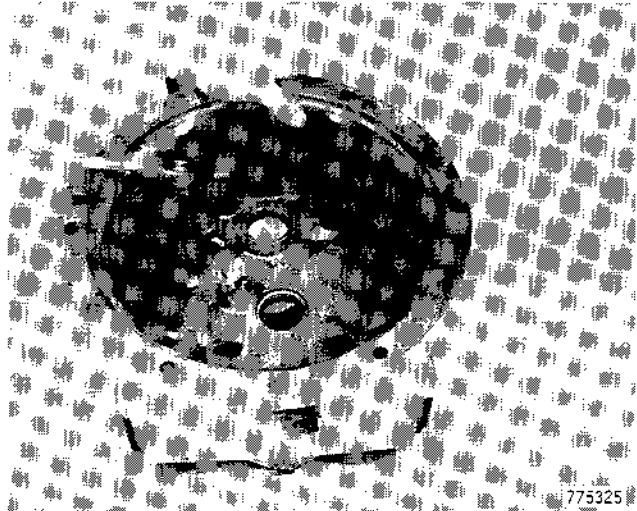

Figure 54
3. If idler shaft was removed, install new idler shaft, Figure 54.